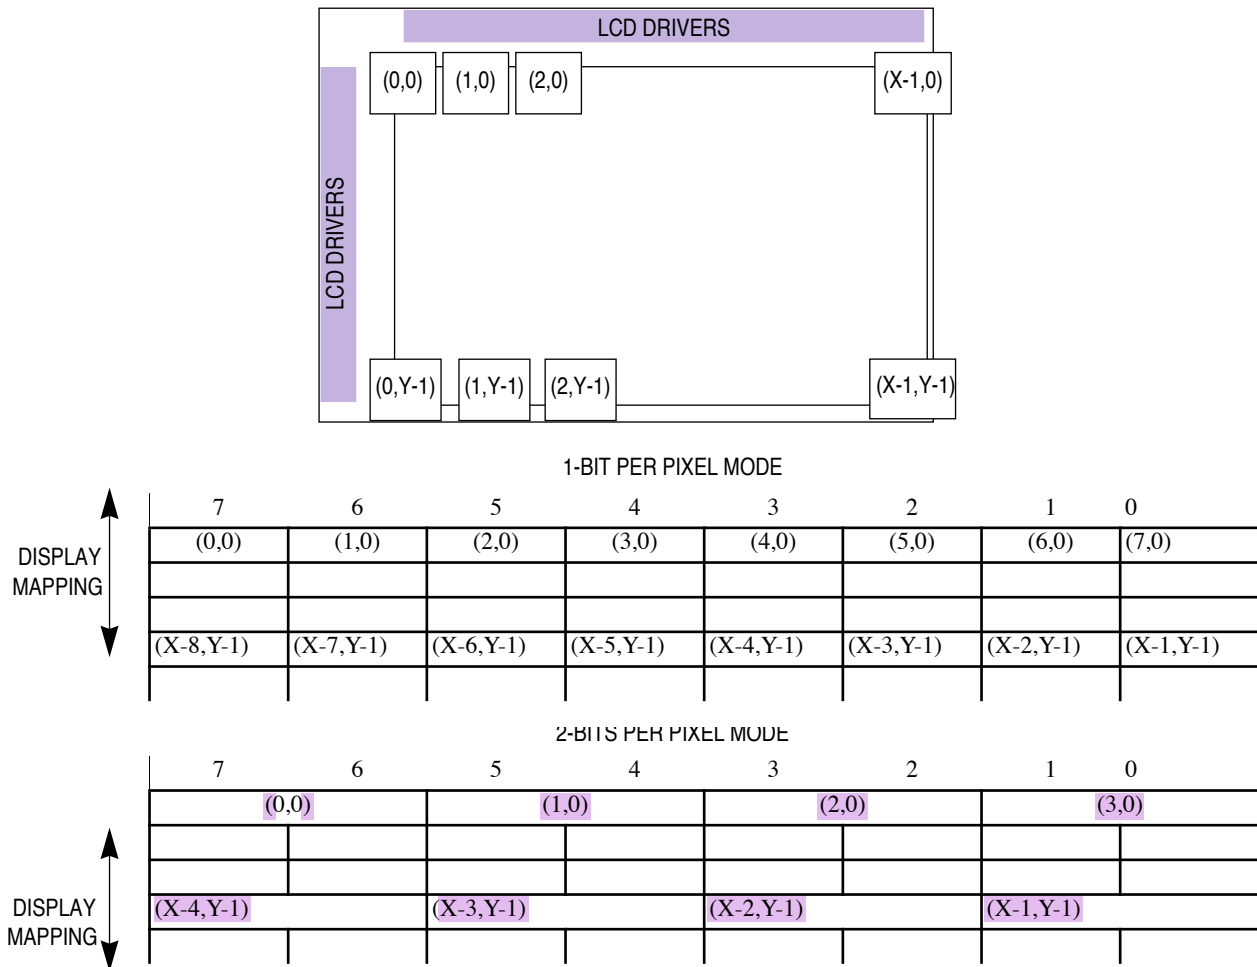

Figure 12-4. Mapping Memory Data on the Screen
12.1.2.3 MAPPING THE DISPLAY DATA. The LCD controller supports 1 or 2 bits per pixel graphics mode. In the 1-bit mode, each bit in the display memory corresponds to a pixel in the LCD panel. The corresponding pixel on the screen is either fully on or fully off. Meanwhile, in 2-bit mode, each pixel is being represented by two bits of display memory. To map the data to the LCD panel, you have to program the appropriate bit in the corresponding address of the display memory. Figure 12-4 illustrates how the system memory data in both modes are mapped.